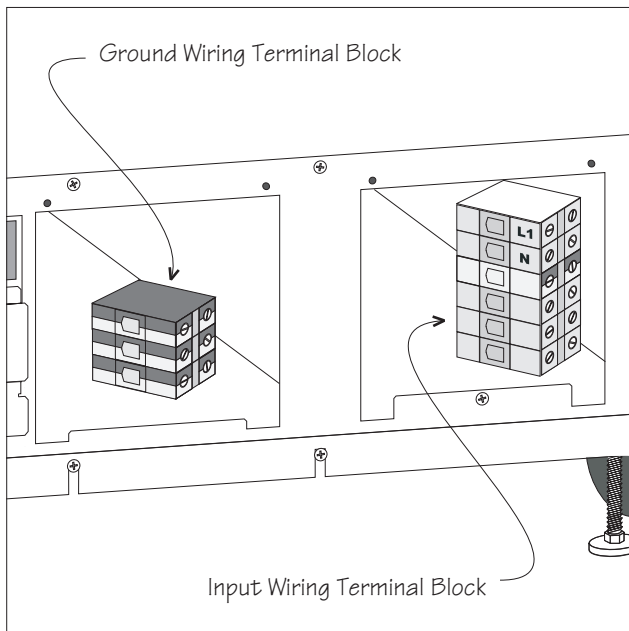

Fig 4-2 Ground Wiring and Input Wiring Terminal Blocks
5. Note the positions of the ground wiring terminal block and the input wiring terminal block. See figure 4-2.